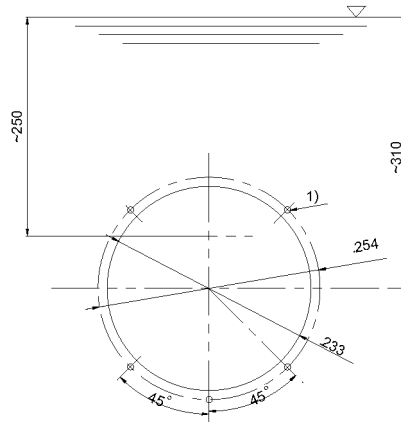

Figure 1
a) Use 4 screws(M6*20) to fix the counter current jet plate to the pool wall hole. (Figure 1)